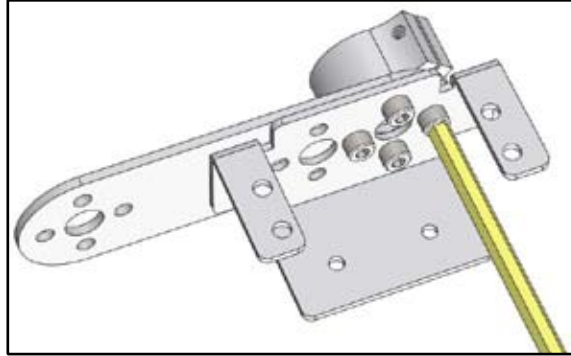

Figure D1
- 2) Align one side of a flat bracket to the back of a single-servo motor bracket. Hold those together and attach whatever structural element you are using – shown here is a tubing clamp. Connect these three together with four 1/2" SHCSs (Figure D1).